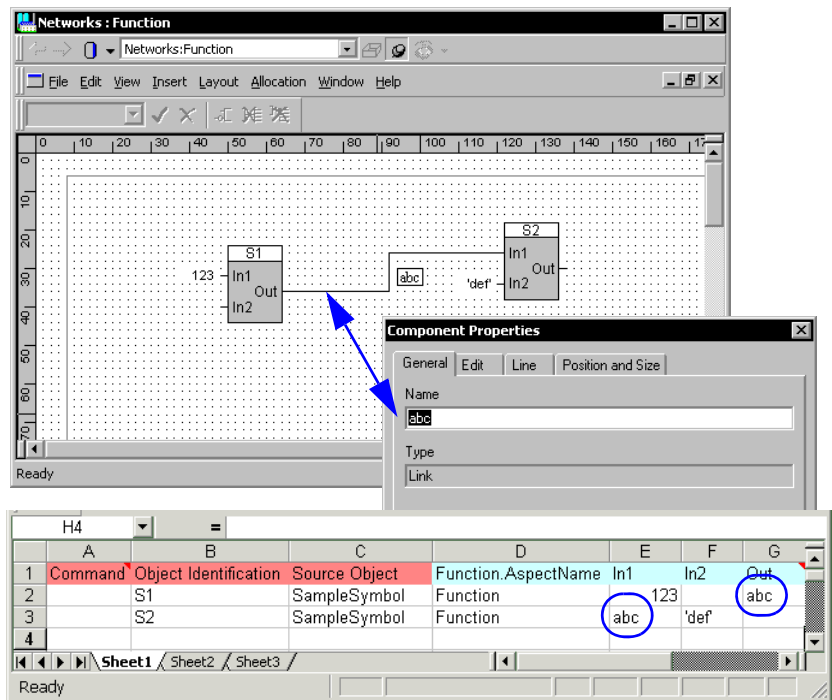

Figure 41. 1 : 1 Network
- In Figure 41, S1:Out was connected to variable abc. A 1:1 network with one connection link gets automatically created, connecting S1:Out with S2:In1. The link is labeled abc, and the links name property equals abc. This is also reflected in the aspect properties, and in Bulk Data Manager. And vice versa, user can automatically create networks with links by updating connect strings in the aspect properties dialog, or in Bulk Data Manager, see also Create Diagram\(s\) through Bulk Data Manager.